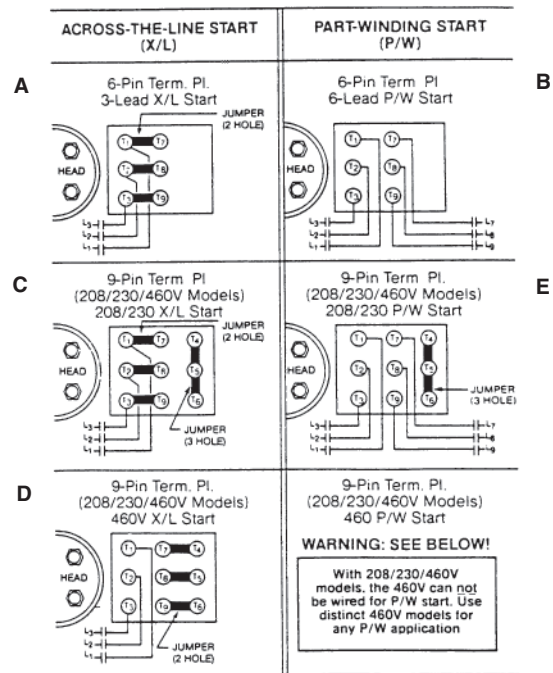

FIGURE 1
CAUTION: Do not charge oil through the suction line or through the compressor suction access fittings. See Figures 1 & 2 for the recommended oil charging port. Adding oil into the suction side of the compressor can cause damage to the suction/discharge valves, pistons, and/or connecting rods.
Consult the wiring diagram located inside the compressor terminal box cover and Fig. 1 shown below for wiring connection locations.
The (3) jumper bars supplied with the compressors are required for 3-Lead XL start only. Jumpers are assembled directly on terminal studs connecting T1 & T7, T2 & T8 and T3 & T9 as shown in (Fig. 1-A).
- 6-Lead Across-the-Line (X/L) or Part Winding (P/W) start (Fig. 1-B):
- For 9-pin terminals for 208/230V-3-60 or 200V-3-50 "Across-the-Line" start applications, connect the jumper bars as follows (Fig. 1-C):
- Install (3) 2-hole copper jumper bars connecting terminals 1 to 7, 2 to 6, and 3 to 9.
- Install (9) terminal nuts (included in this kit) on terminal studs to secure jumper bar/line connections. Tighten terminal nuts to 12 ft./lbs. maximum.
- For 9-pin terminals for 208/230V-3-60 or 200V-3-50 "Part Winding" start applications, connect the jumper bars as follows (Fig. 1-D):
- For 9-pin terminals for 460V-3-60 or 400V-3-50 "Across-the-Line" start applications, connect the jumper bars as follows (Fig. 1-E):
- Install (3) 2-hole copper jumper bars connecting terminals 7 to 4, 8 to 5, and 9 to 6.